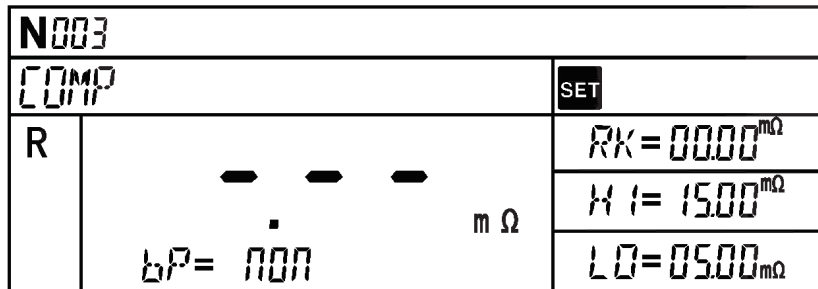

Fig.4-4 Configuration of Comparison Selection. The selected parameter to configure is flickering.
- In Comparison function mode, press "SET/RCL" button to light on configuration symbol "set" as below Fig.4-4 shown, short press "SET/RCL" to switch between configurable parameters.